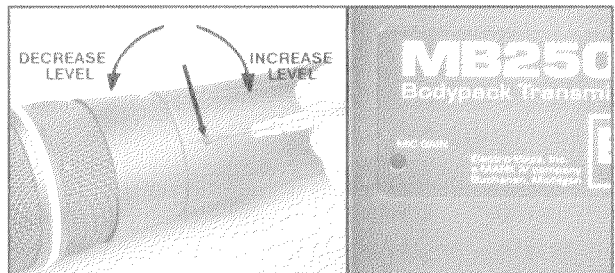

Figure 5 - Adjust Transmitter Audio Level Control
- 4) **Gently insert the provided screwdriver (or other 3/32" screwdriver) into the hole near the head of the transmitter (see Figure 5).** Turn lightly until the screwdriver tip drops into the slot in the level control. Begin with the transmitter mic-level adjustment in the attenuated position by gently turning counterclockwise until the control stops (the mic output is attenuated but is not "off"). Slowly turn the mic-level control clockwise while speaking or singing into the mic until the orange and the first red LED's on the receiver AUDIO LEVEL meter flash on the loudest voice peaks. If the "-20" and "-10" LED's on the receiver do not illuminate frequently and remain on fairly consistently, turn "up" the transmitter mic-level control. Note: Setting the mic level correctly maximizes the system signal-to-noise ratio while ensuring optimum audio quality. If the mic level is set too high, distortion, thumps, or pops due to overload may occur; if set too low, the system may "noise up" at times.
- 5) **Gently insert the provided screwdriver (or other 3/32" screwdriver) into the hole at the lower left-hand corner of the product label (see Figure 5).** Turn lightly until the screwdriver tip drops into the slot in the level control. Begin with the transmitter mic-level adjustment in the attenuated position by gently turning counterclockwise until the control stops (the mic output is attenuated but in not "off"). Slowly turn the mic-level control clockwise while speaking until several of the green LED's on the receiver AUDIO LEVEL meter are lit consistently (the orange and first red LED's may flash on the loudest voice peaks). If the LED between the two switches on the transmitter flashes on voice peaks, turn down the level on the transmitter